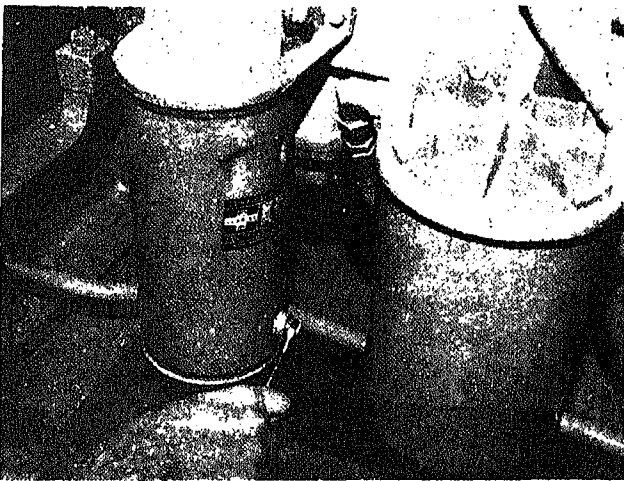

Fig. 5-5. Removing lubricating oil filter drain plug
1. Remove drain plug from filter case and allow oil to drain. See Fig. 5-5.